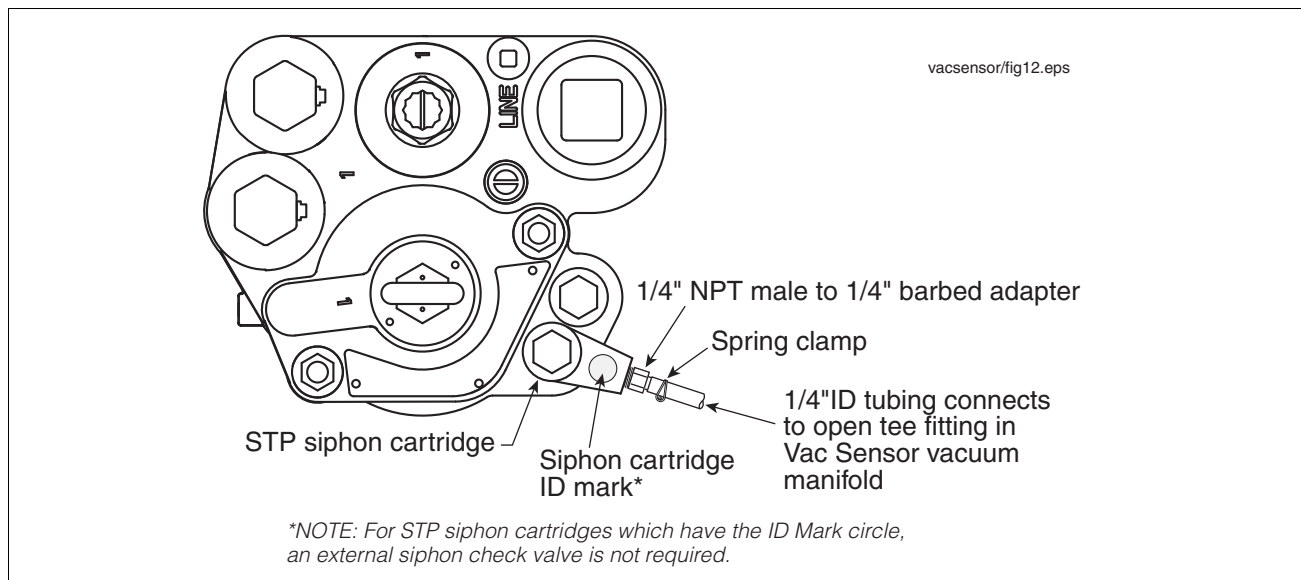

Figure 12. Example Vacuum Source Connection at The Red Jacket STP
6. Measure a length of 1/4" ID tubing to connect the VAC TEST port (ref. Figure 12) on the Vac Sensor labeled 'T' to the tank's interstitial 3-way ball valve. Plan enough tubing to avoid sharp bends in it or stretching it. Cut and install this tubing and secure tubing ends with spring clamps.
1. Figure 12 is an example diagram of the vacuum connection at the The Red Jacket STP.